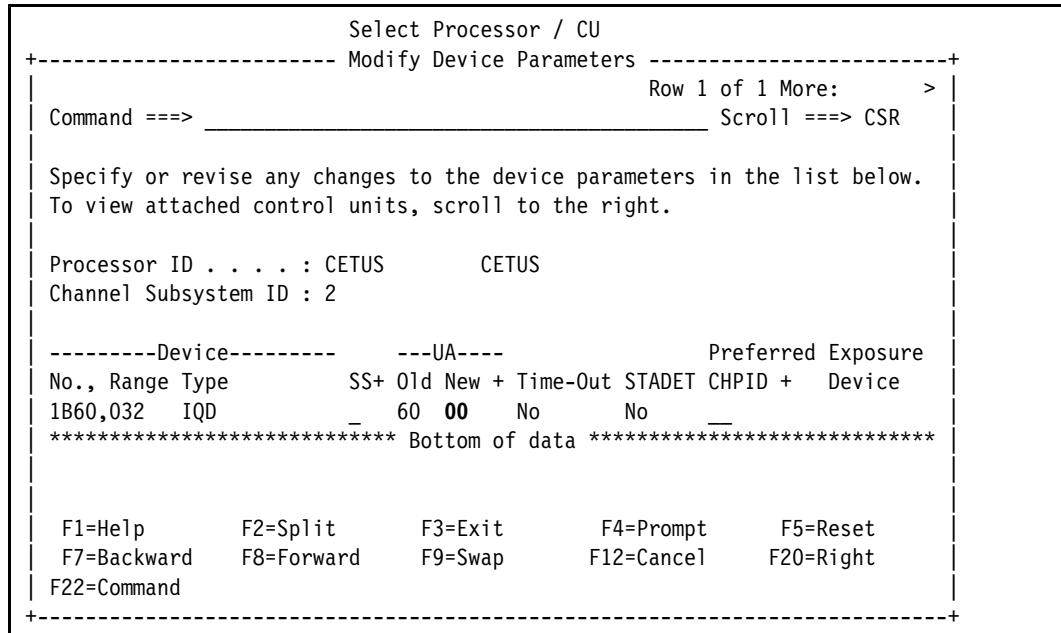

Figure 13-63 Control units: Modify Device Parameters, IQD
7. HCD now shows the Modify Device Parameters panel where you have the option to override the UA numbers. For IQD definitions, the Unit address usually starts at 00. Make the following updates to define the Modify Device Parameters (Figure 13-63), and press **Enter**: